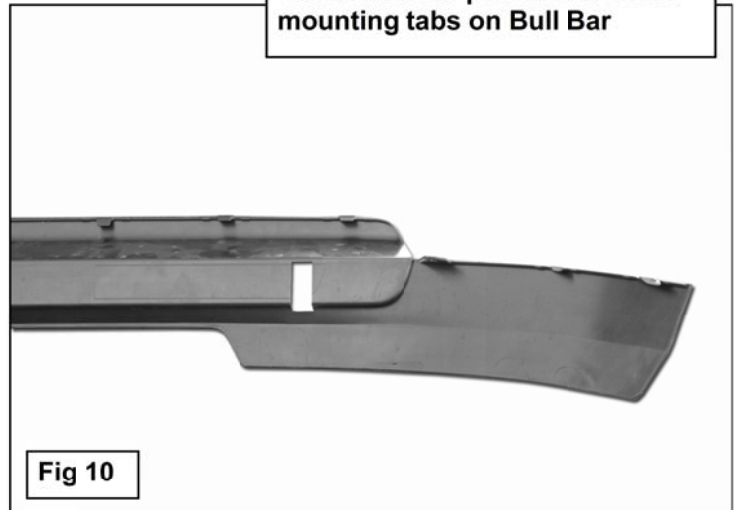

Fig 10
6. Use the location of the previously installed Frame Mounting Bracket to determine where to draw the top and bottom horizontal lines, (**Figure 9**). Carefully cut this area out of the bumper cover with a sharp knife or hacksaw, (**Figure 10**). **IMPORTANT:** Do not cut through the top or bottom edge of the bumper cover. Only remove enough material to clear the mounting tabs on the Bull Bar.